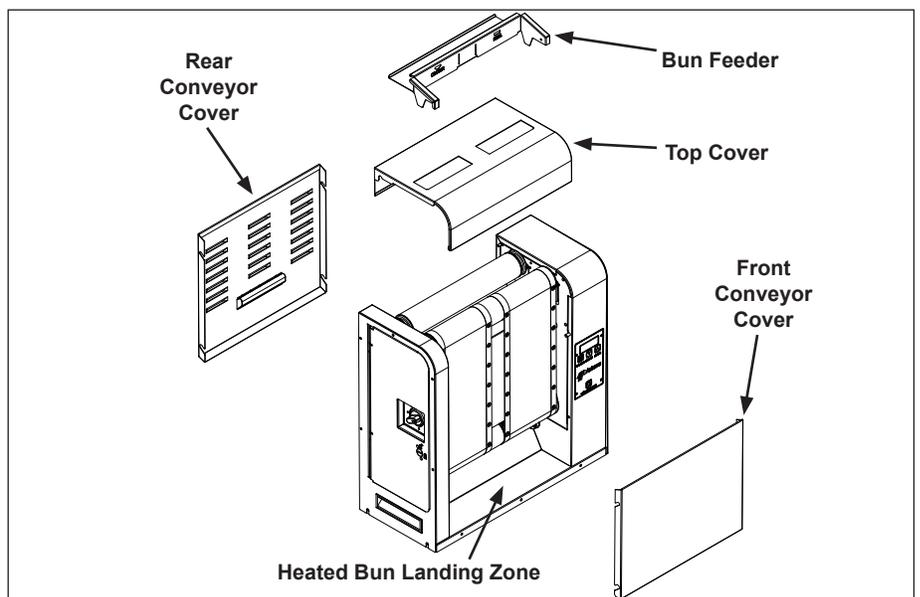

Figure 3. Components
4. Attach the top cover and bun feeder (Figure 3).